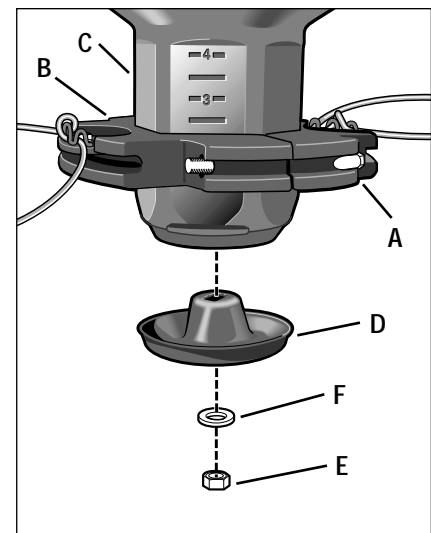

Figure 5-2
2. Two bolts (A, Figure 5-2) secure the trimmer head (B) to the spindle head (C). Loosen both bolts (not the nuts) just enough to allow the trimmer head to slide down the spindle head and past the two stops. Do not attempt to remove the bolts – they are permanently attached. NOTE: It may be necessary to remove the wear cup (D, Figure 5-2) when replacing the trimmer head. See Step 4 for instructions.
4. Inspect the wear cup (D, Figure 5-2) for signs of severe wear, such as deep gouges. Use the following steps if the wear cup needs to be replaced:
- a. Insert a Phillips head screwdriver into the small hole at the top, front of the deck (see Figure 5-5) and rotate the trimmer head until the screwdriver engages a hole in the trimmer head. This will prevent the trimmer head from turning when you next remove the hex nut (E, Figure 5-2).
- b. Remove hex nut (E), washer (F) and wear cup (D). Install the new wear cup and reinstall the washer and hex nut. Tighten securely and remove Phillips screwdriver from deck.